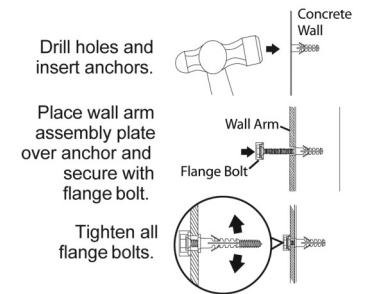

Figure 3
b. Insert two flange bolts (M) into the wall anchors through the wall plate. Be sure the Wall Arm Assembly is mounted with the key slots pointing upwards (Figures 3 & 4).